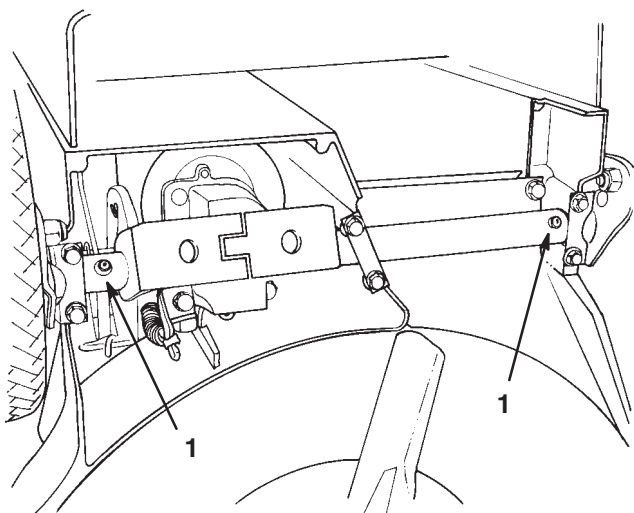

Figure 27
3. Set mower to highest height-of-cut setting (E).
4. Tip mower on its left side. Wipe grease fittings with clean rag (Fig. 27). Install grease gun onto fitting and gently apply one or two pumps of #2 Multi-Purpose Lithium Base Grease.